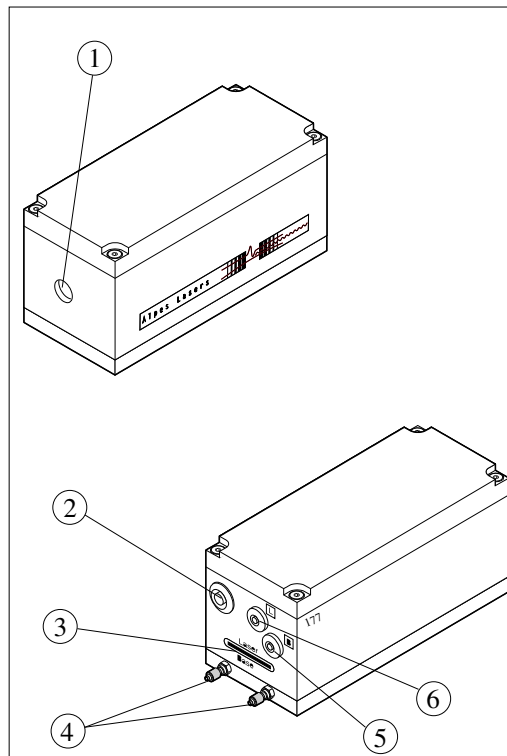
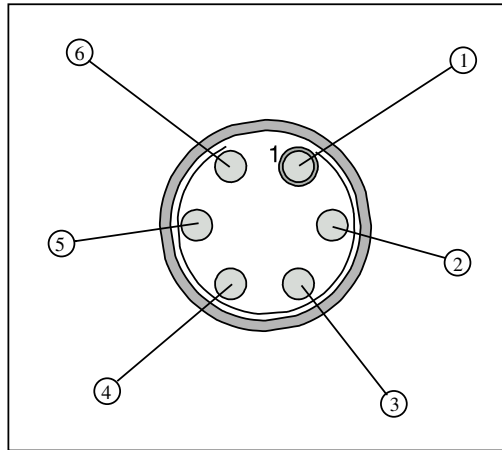

Figure 5.14.: LLH housing description.
Figure 5.15.: LLH housing connector (2).
The LLH front and rear panels are shown in figure 5.14. The different parts are described below:
The Peltier connector (2) shown in figure 5.14 is zoomed in figure 5.15. It carries 6 pins, described in table 5.6. Pin 1 is circled, and a half-moon engraving runs from pin 1 to pin 6. A fixed current is supplied to pin 3 and 6 (typically  $10 \mu\text{A}$ ). The resistance of the thermistor varies as a function of temperature and the temperature measurement is given by the voltage between pin 4 and 5.
The TC-3 controls the temperature of the LLH with a Peltier junction and monitors the temperature with a temperature sensor3 through the C-TC-3-LLH cable, shown in figure 5.18. The Peltier connector is identical to the connector shown in figure 5.15. The controller connector is a DB-15 connector described in table 5.4.